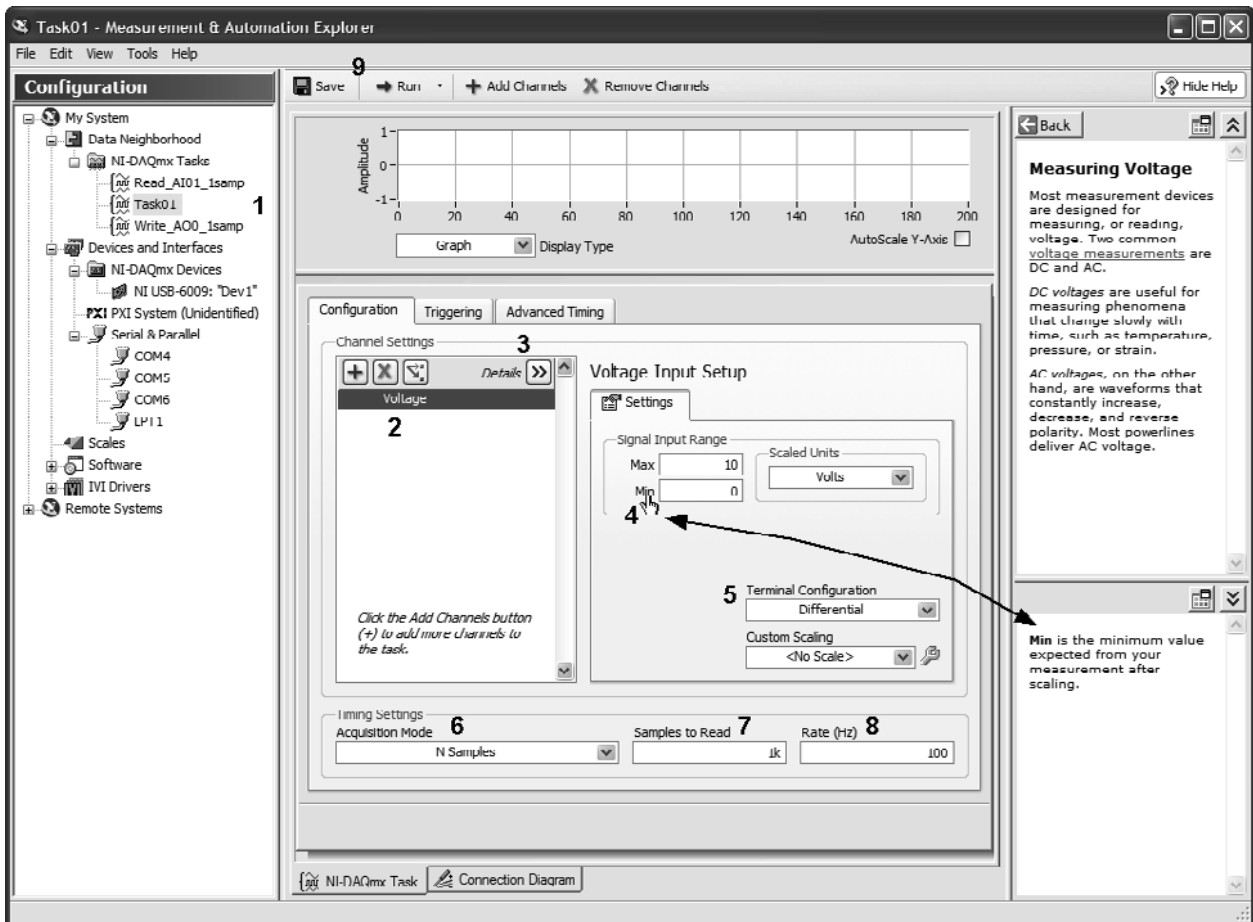

Figure 5.30
The task name allows the task to be stored. In this example the task has been named “Task01”. When you click **Finish**, the new task will be shown in the Measurement and Automation Explorer, as shown in Figure 5.30. Many of the settings for the task have been assigned default values; they can be edited in the Explorer.
Comments on Figure 5.30:
8. **Rate (Hz)**—indicates how fast the samples should be collected. The default is 1 kHz, or 1000 samples per second. In Figure 5.30 the sampling rate has been reduced to 100 samples per second.